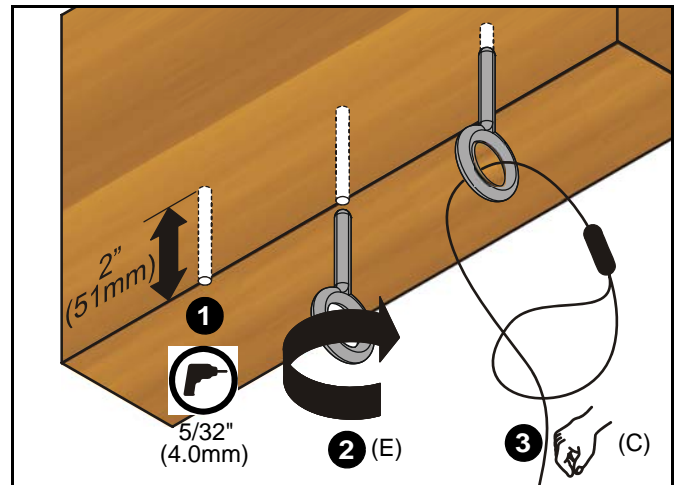

Figure 8
1. Drill 5/32" (4.0mm) diameter x 2" (51mm) deep hole at each marked cable anchor support location (See Figure 8). Remove debris from hole.
2. Fully thread eye lag (E) into each hole (See Figure 8).
3. Route end of cable (C) through eye lag (E) and then through cable loop (See Figure 8). Repeat for remaining support locations.